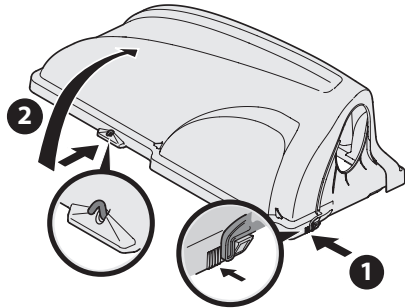

Figure 26
2. Lift up bagger cover by pushing in on the rear, right-side tab with your right hand (1), as seen in of Figure 26, and lifting the cover with your left hand in the center rear of the bagger cover (2).